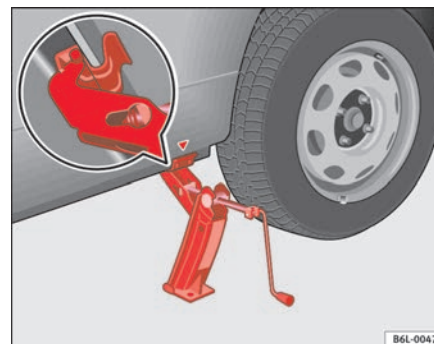

Fig. 128 Fitting the jack
- Align the jack so that the notch of the jack fits around the rib under the door sill and the movable base plate of the jack is flat on the ground ⇒ **fig. 128**.